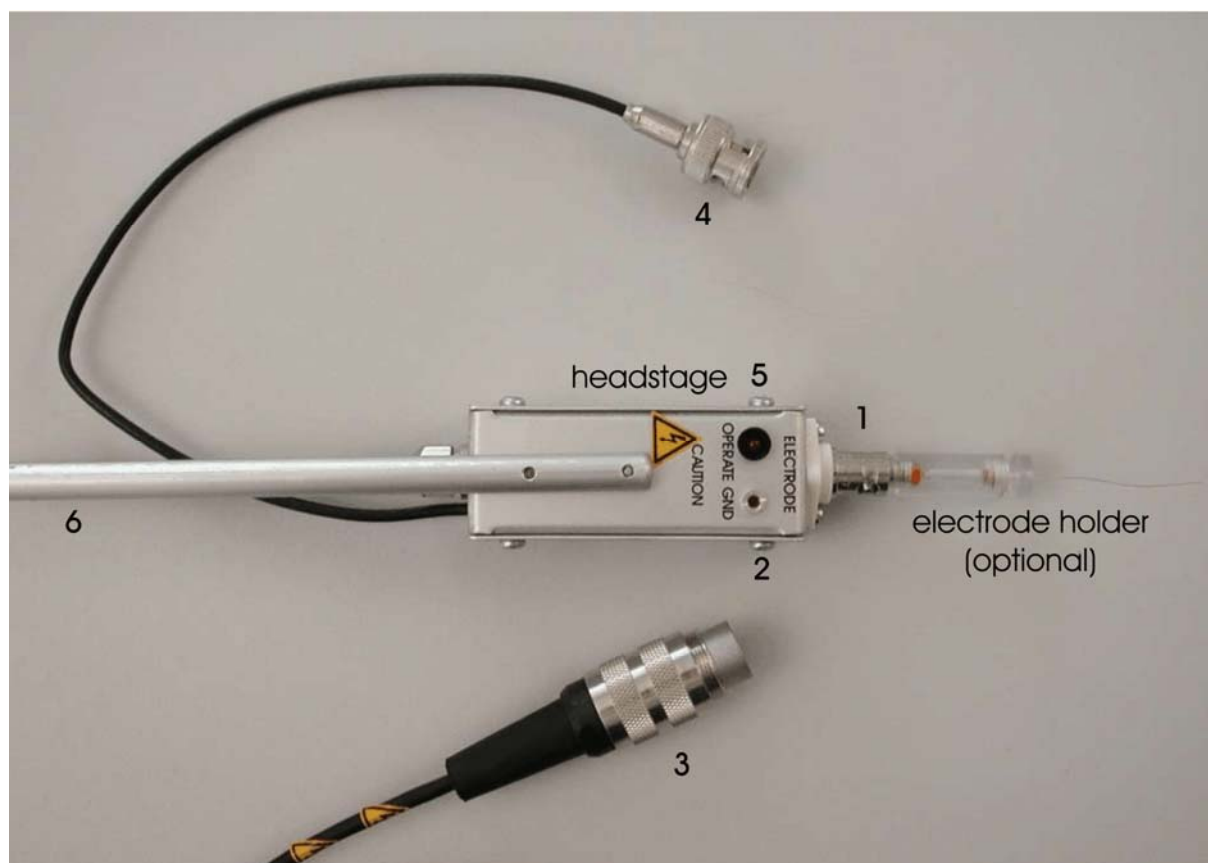
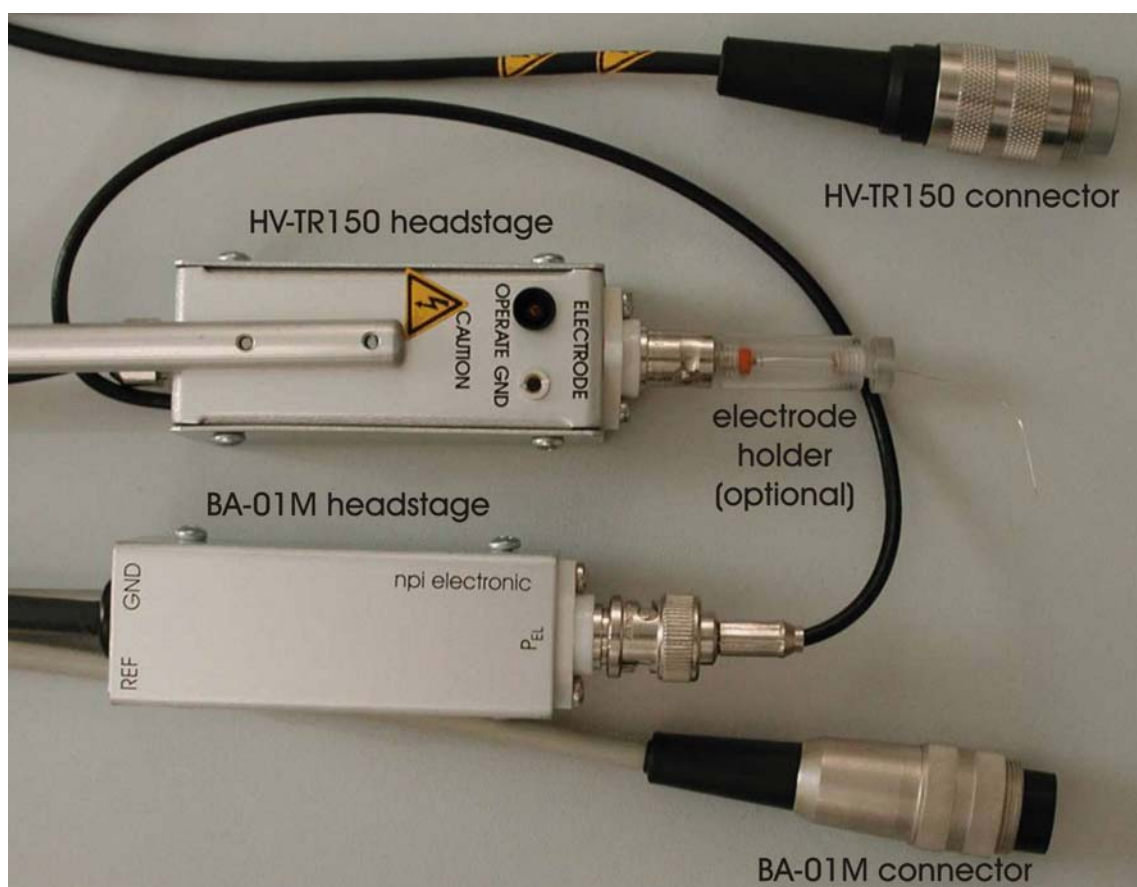

Figure 5: HV-TR150 headstage with electrode holder (optional)
Figure 6: connection of BA-01M and HV-TR150 headstages
- ⇨ Electrode holder (see also Figure 5 and Figure 6)
- Connect the headstage of the BRAMP-01R to the headstage of the HV-TR150 (see Figure 6)
- Connect the recording / application electrode to the headstage of the HV-TR150 (see Figure 6)